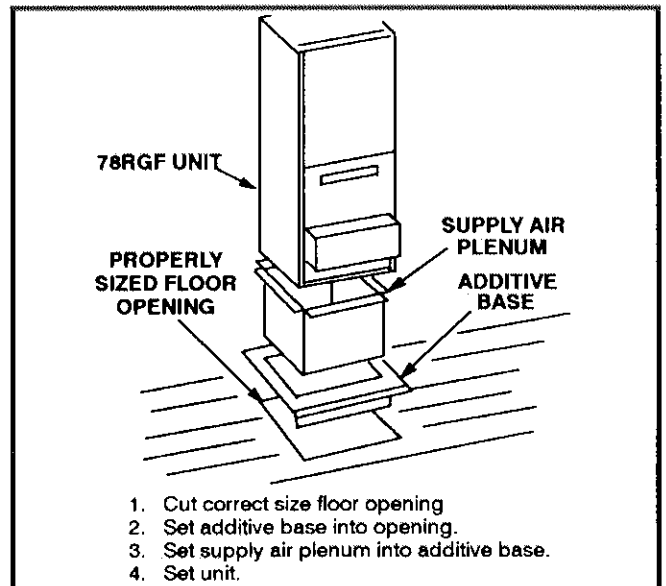

FIGURE 5
- 5— Set unit on additive base so unit flanges drop into plenum. Refer to figure 5.